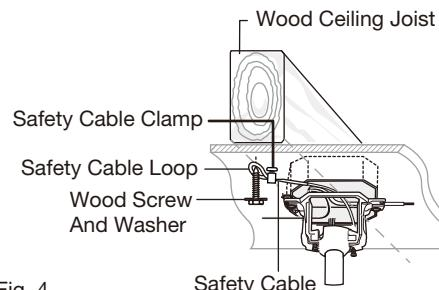

Fig. 4
**NOTE:** The tab opposite hanger bracket opening should fit in slot on ball. (Fig. 4)